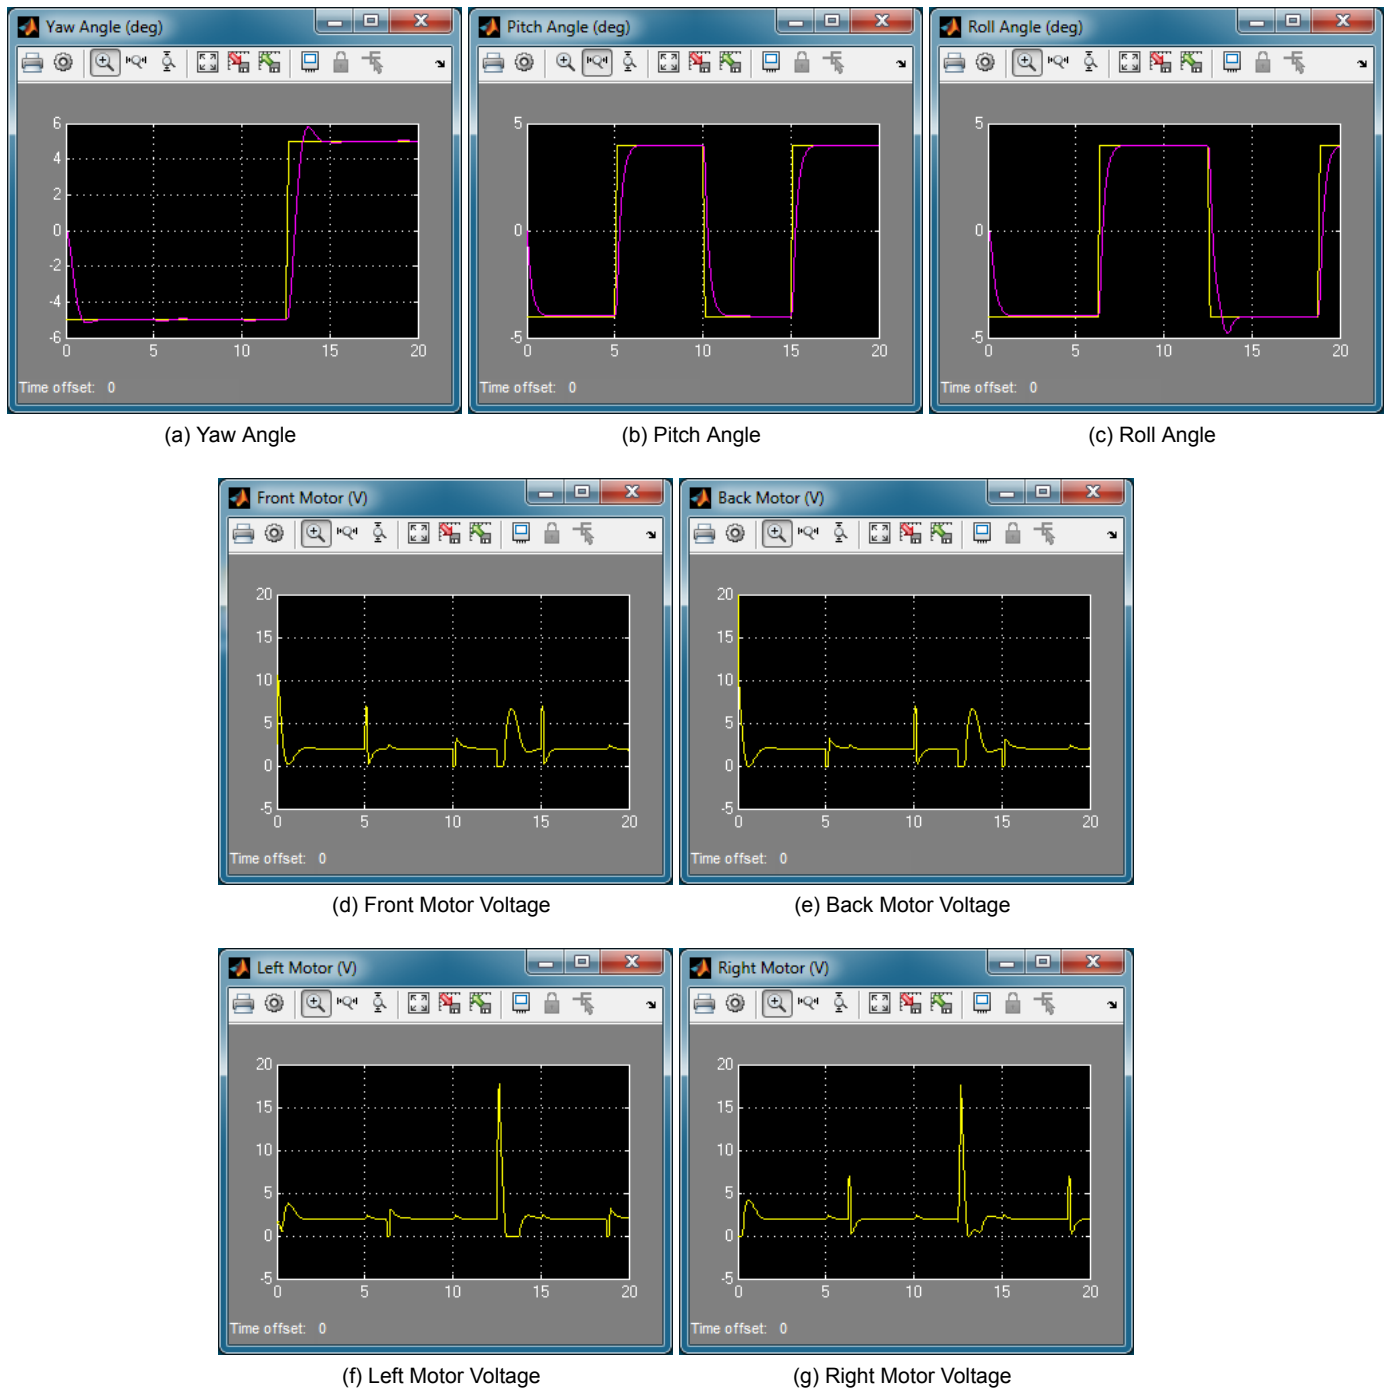

Figure 3.2: Simulated closed-loop response
7. Start the simulation. The scopes should be displaying responses similar to Figure 3.2. The yaw, pitch, and roll angles should track the commanded square position signal scope. The Saturation block only allows positive control voltages and limits them to a maximum of 24V (which can be changed). At low command angles, the voltages are changing about the bias voltage 2 V, i.e., $V_{bias} = 2V$.